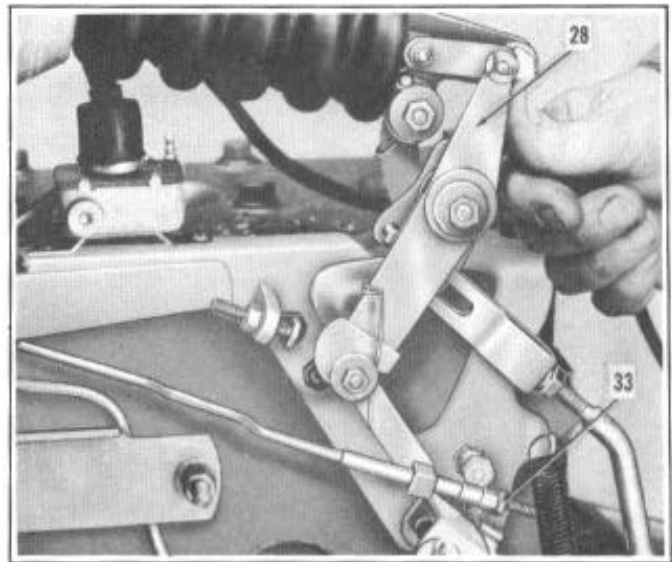

FIGURE 20
Adjust the threaded sleeve (33), Figure 20 until the vacuum cylinder piston is 1/2" from its extreme forward position.